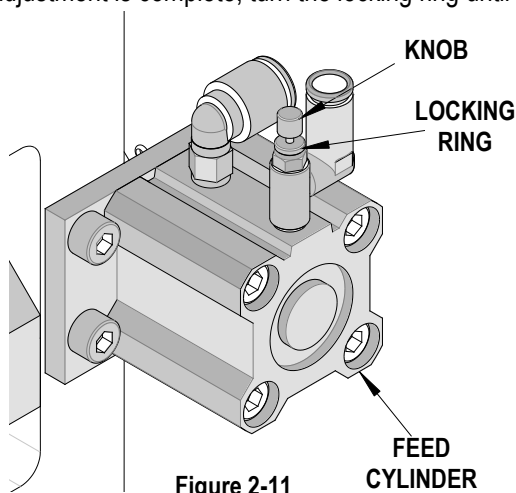

Figure 2-11
Terminal feed speed is controlled by the flow control valve on the feed cylinder. Loosen the locking ring, then turn the adjustment knob clockwise (CW) to reduce the feed speed or counterclockwise (CCW) to increase the feed speed. See Figure 2-11.
4. To adjust the stripper up and down, use a 4mm hex wrench to loosen the M5 socket head screw on the front of the stripper. Move the stripper down until it is just above the taped terminal on the anvils. See Figure 2-11. Tighten the M5 socket head screw when adjustment is complete.